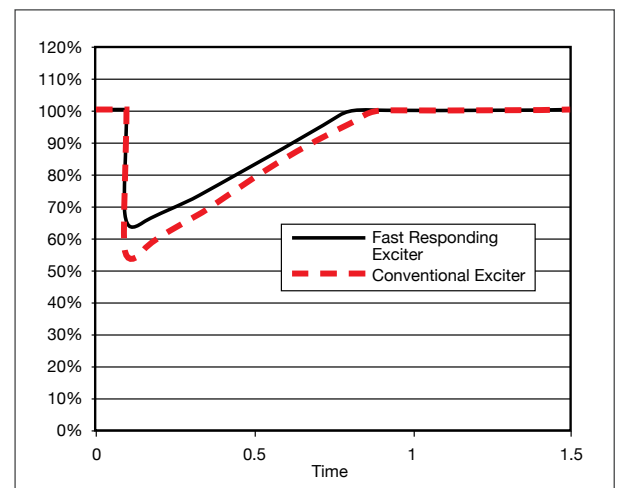

Figure 7: Motor-Starting Voltage vs. Time
**Voltage regulator and excitation system response time** – Thorough testing has revealed that in addition to the transient reactance of the alternator, voltage regulators and exciters affect voltage dip and recovery. A fast-responding excitation system can limit the initial voltage dip as shown in *Figure 7*.